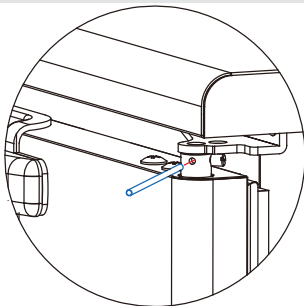

Fig 9-20
1. Insert the steel stick between the shaft holes. (Fig 9-20)